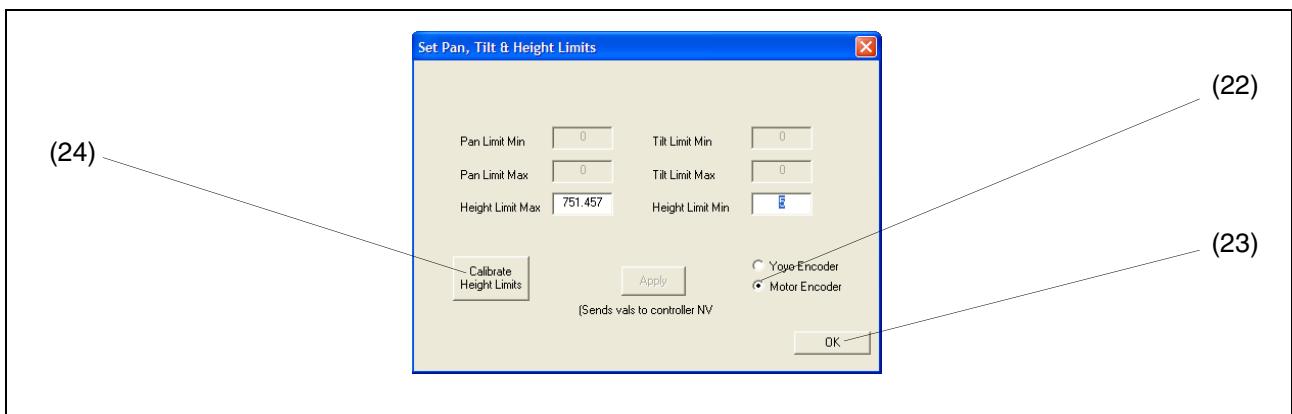

Fig 3 Set pan, tilt & height limits form
6. Ensure MOTOR ENCODER (22) is selected from the 'Set Pan, Tilt & Height Limits' form (Fig 3).
7. Select CALIBRATE HEIGHT LIMITS (24).
8. Once movement has ceased, select OK (23) to close the 'Set Pan, Tilt & Height Limits' form (Fig 3).